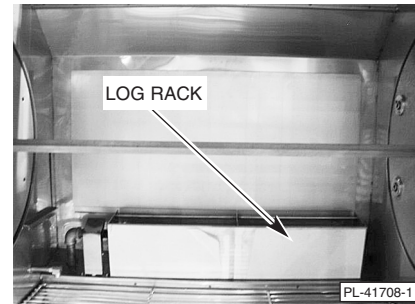

Fig. 36
- Lift log rack (Fig. 36) up and out of rotisserie oven cavity and clean in a sink with warm, soapy water or degreaser.